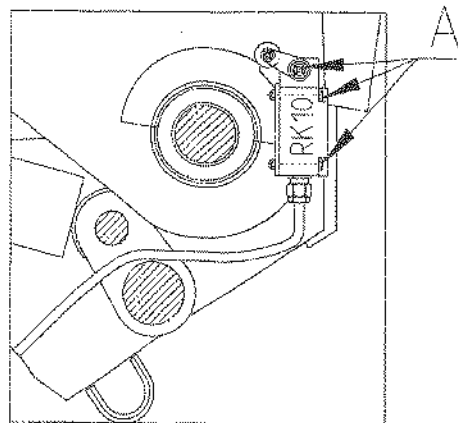

Figure 19-3
7. Seal objects A (figure 19-3).